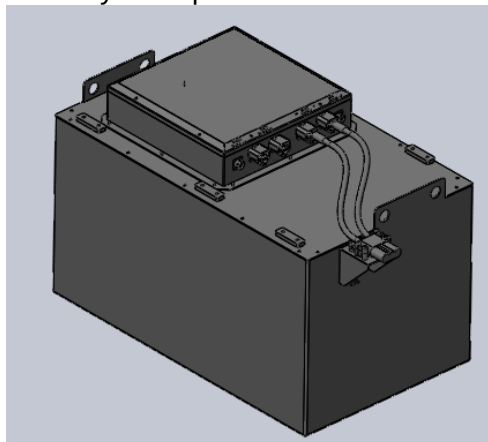

Figure 2-30
(4) Figure 2-30 shows how to lift a battery box.